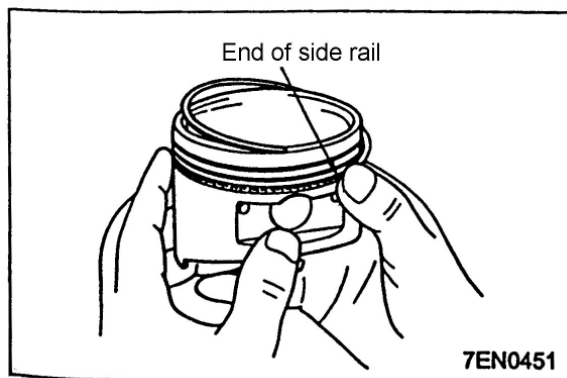

Fig.4-51
- b To install a side rail, fit one end of the rail into the groove then press the rest of the rail into position by hand as shown, see Fig.4-51.